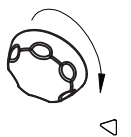

Fig. 8
- Keep the drainage pipe (Fig. 8) clean in the refrigerator compartment to keep it free of water.
(Figure 8)